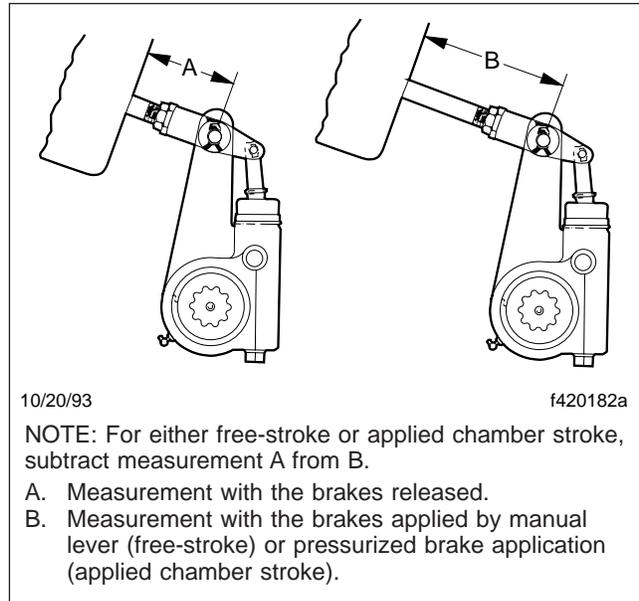

Fig. 9, Measuring the Stroke
- 5.1 With the brakes released, measure the distance from the bottom of the brake chamber to the center of the large clevis pin. Record this measurement as dimension A. See **Fig. 9**.
- 5.2 Using a lever, move the slack adjuster until the brake linings contact the brake drum. Measure the distance from the bottom of the brake chamber to the center of the large clevis pin. Record this measurement as dimension B. See **Fig. 9**.
- 6.2 With the brakes released, measure the distance from the bottom of the brake chamber to the center of the large clevis pin. Record this measurement as dimension A. See **Fig. 9**.
- 6.3 Fully apply the brakes. Then, measure the distance from the bottom of the brake chamber to the center of the large clevis pin. See **Fig. 9**, Ref. B. Record this measurement as dimension B.